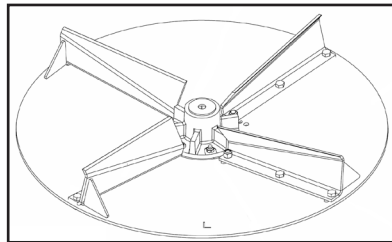

Figure 1 - LH spinner disc - gussets point counter-clockwise
3. Position fin with gusset near outer edge of spinner disc per figures 1 and 2.
- Figure 1 - Gusset faces counter-clockwise for lefthand disc.
11. If spinner disc was removed completely from spreader, place spinner discs back in proper position. When facing rear of spreader, the righthand disc goes on the right side of the spinner assembly, and the lefthand disc goes on the left side. When properly installed, the discs should be positioned to each other as shown in Figures 1 and 2.